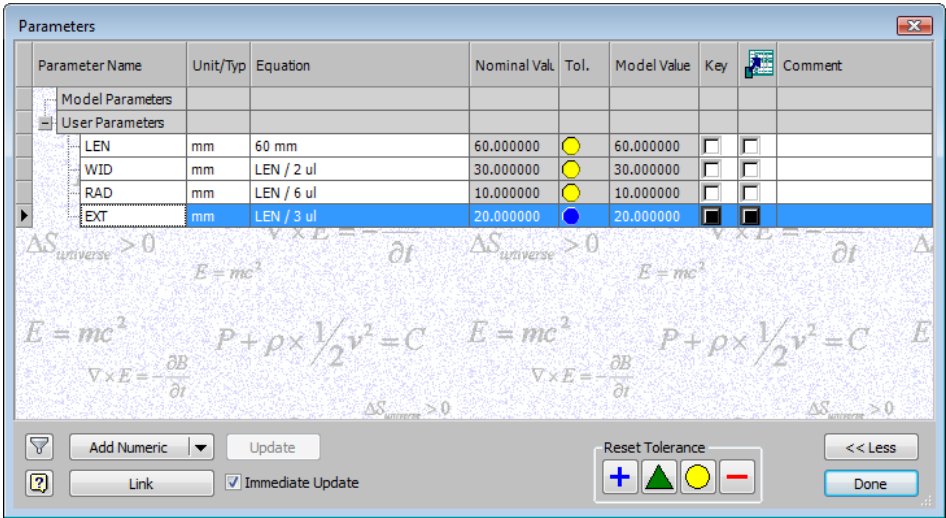

Figure 18-30 The Parameters dialog box after adding the user-defined parameters
- Invoke the **Parameters** tool and create required parameters, refer to Figure 18-30.
7. Similarly, create the remaining parameters. The **Parameters** dialog box after creating all the parameters is shown in Figure 18-30. Choose **Done** to exit the **Parameters** dialog box.